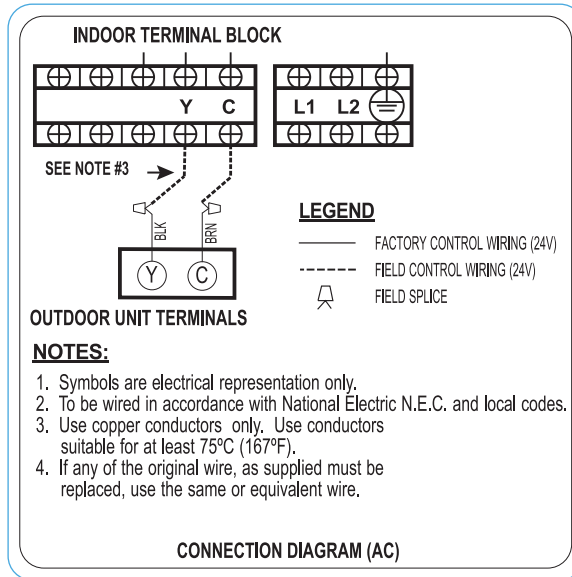

Fig. 7 - 40MKCBF/24AHA4 or 124ANS Connecting Diagram**
- 2 All connections between the indoor and outdoor units must be as shown in Fig. 7 and 8. The connections are sensitive to polarity and results in a fault code.